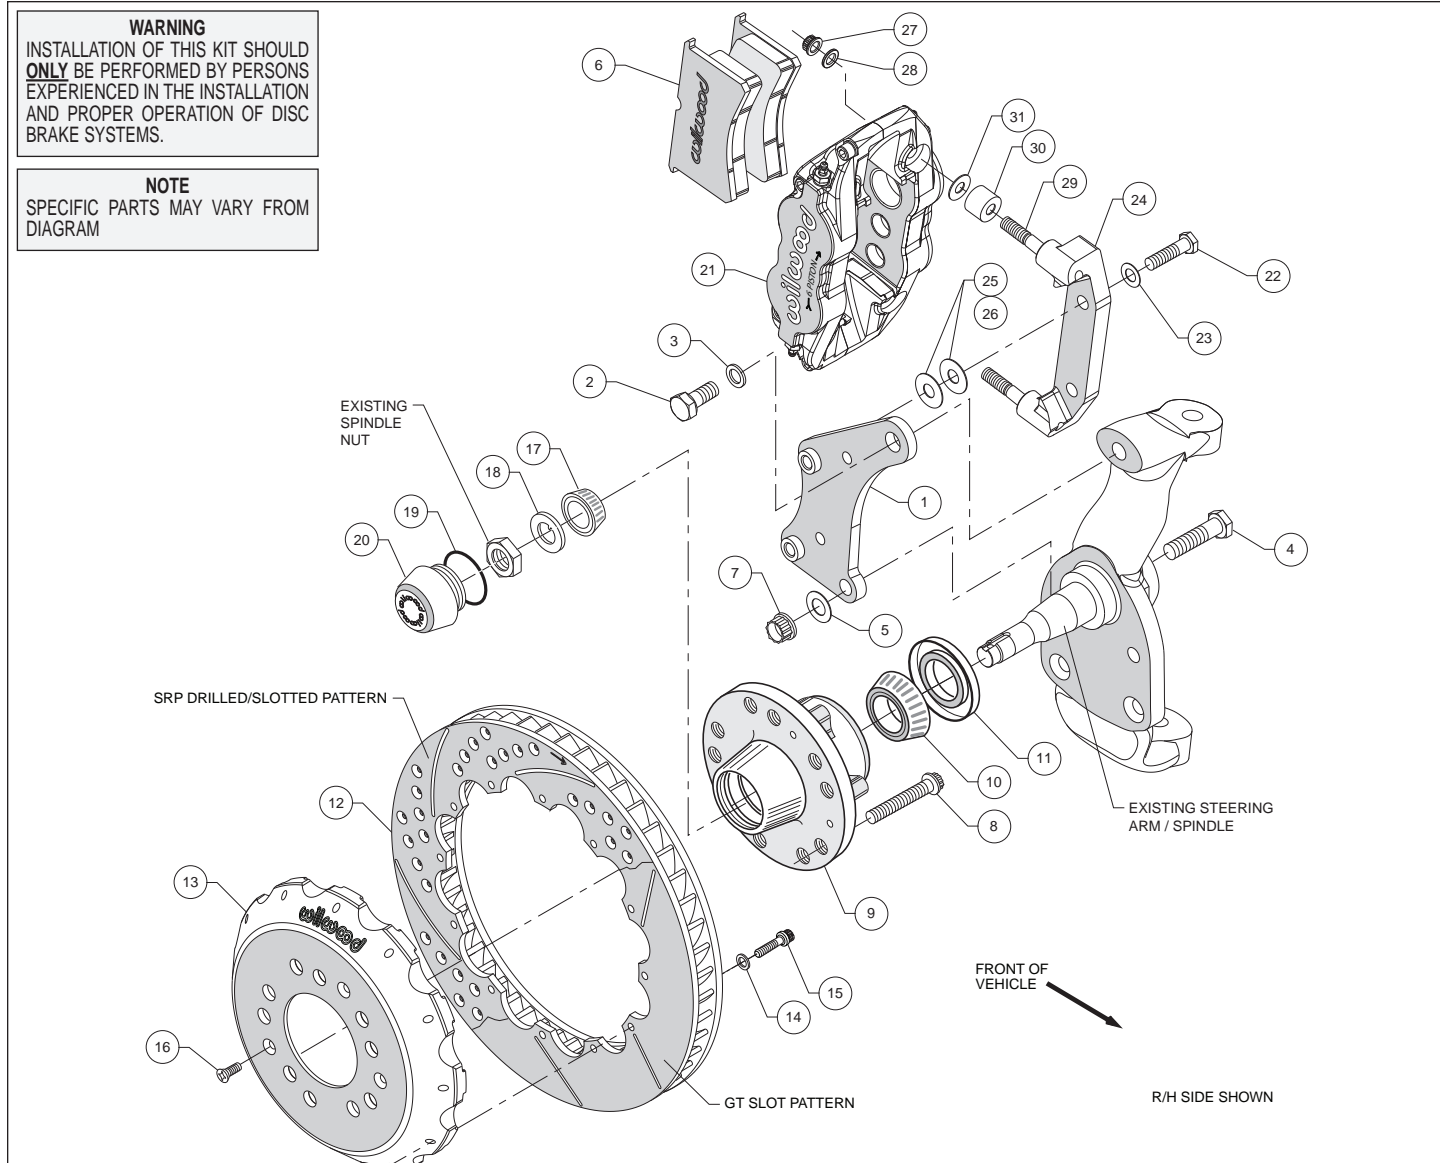

Figure 1. Typical Installation Configuration
- Mount the radial mount caliper bracket (24) to the first "flat" caliper mounting bracket (1) from the far side by sliding bolt (22) through washer (23). Place two .030 thick flat washers (26) between the two brackets (1 and 24) before sliding the mounting bolts (22) all the way into the first caliper mounting bracket (1). Finger tight only.
•**NOTE:** This kit contains distinct right and left hand calipers that must be mounted in a specific direction, as described below. Lubricate caliper mounting studs (29) and nuts (27) with lightweight oil. Install spacer (30) and one shim (31) over each stud (29) on the radial mount bracket (24). Slide the caliper (21) in place over the studs and rotors and install the washer (28) and lock nut (27) to hold the caliper in place, Figure 1. Ensure that the caliper is mounted so that the largest pistons are at the rotor exit end of the caliper, in relation to the direction of rotor rotation. Snug the lock nuts (27) and check that the rotor (12) is centered in the caliper (21). Add or subtract .030" shims (26), or add additional .015" shims (25), as necessary between the radial mount bracket (24) and the flat bracket (1) to center the caliper. Finger tighten and recheck alignment. Use as many shim washers (combination of 25 and 26) as necessary to achieve the correct alignment. Apply red *Loctite*® 271 to bolt threads (22) and torque to 60 ft-lb.